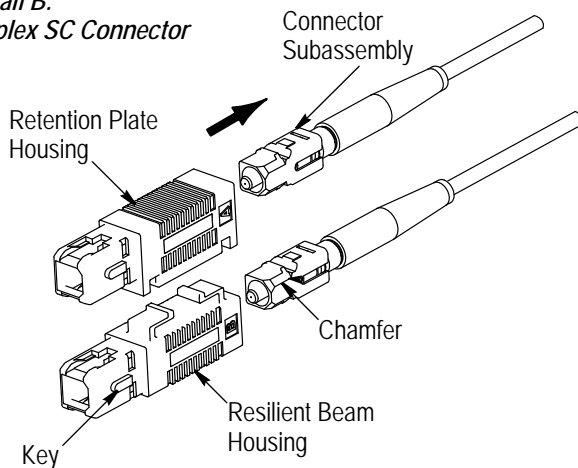

Figure 14
For SC connectors, slide the housing over the connector subassembly until it clips into place. The chamfer must be aligned with the key as shown in Figure 14, Detail A.
- b. Install the duplex housings accordingly. Be sure to orient the resilient beam and retention plate housings as shown in Figure 14, Detail B.